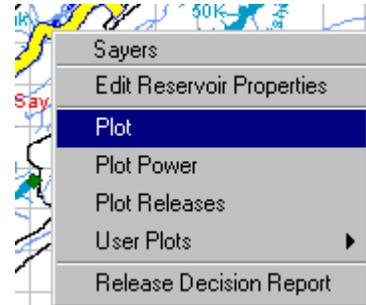

Figure 14.24 Shortcut Menu for an Element
1. Right-click on the element where you want the plot to appear, and select **Plot** from the shortcut menu (Figure 14.24). The default plot for that location will appear.